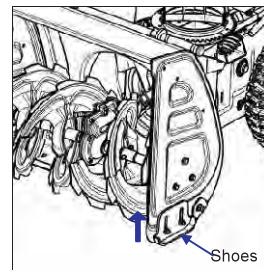

Fig. 17A
- On flat ground, e.g. asphalt, the shoes should be adjusted about 5mm (the auger to the ground). (Fig. 17A)